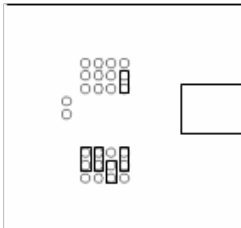
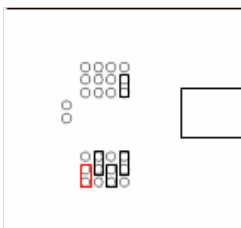

Figure 1: Pull up GPIO 3
Figure 3: Pull down GPIO 3
- First make sure the powerline adapter and PLC Stamp EVB are connected to the same circuit and all jumpers are in default position (see Figure 1)
- Set the jumper for GPIO 3 in pull down position (see Figure 3) for just 6 seconds and then quickly back (see Figure 1)
- Set the jumper for GPIO 3 in pull down position (see Figure 3) for just one second and then quickly back (see Figure 1) in order to trigger the pairing on the PLC Stamp micro EVB